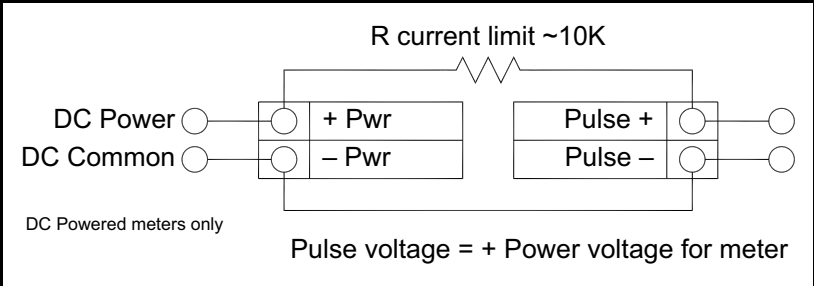

Figure 39: Non-Isolated Pulse Output Using Input Power Supply
- For DC powered meters only, use the flow meter power supply (see *Figure 39 on page 43*). Use this option if the voltage at the flow meter power supply is an acceptable driver voltage for the connected load, taking into account that the current used by the pulse load comes from the meter’s power supply.